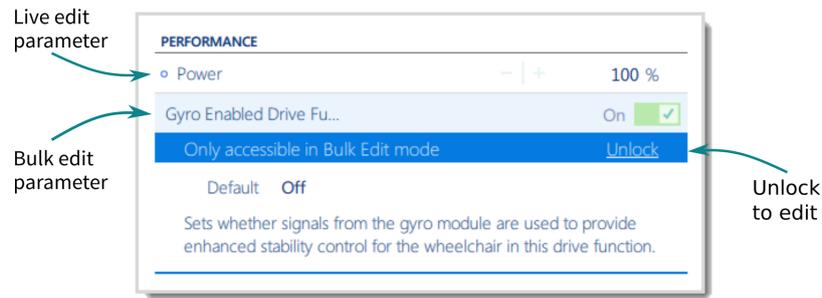

Figure 18: Unlocking bulk edit #2
2. Open any bulk edit parameter and click **Unlock** – *Figure 18*.